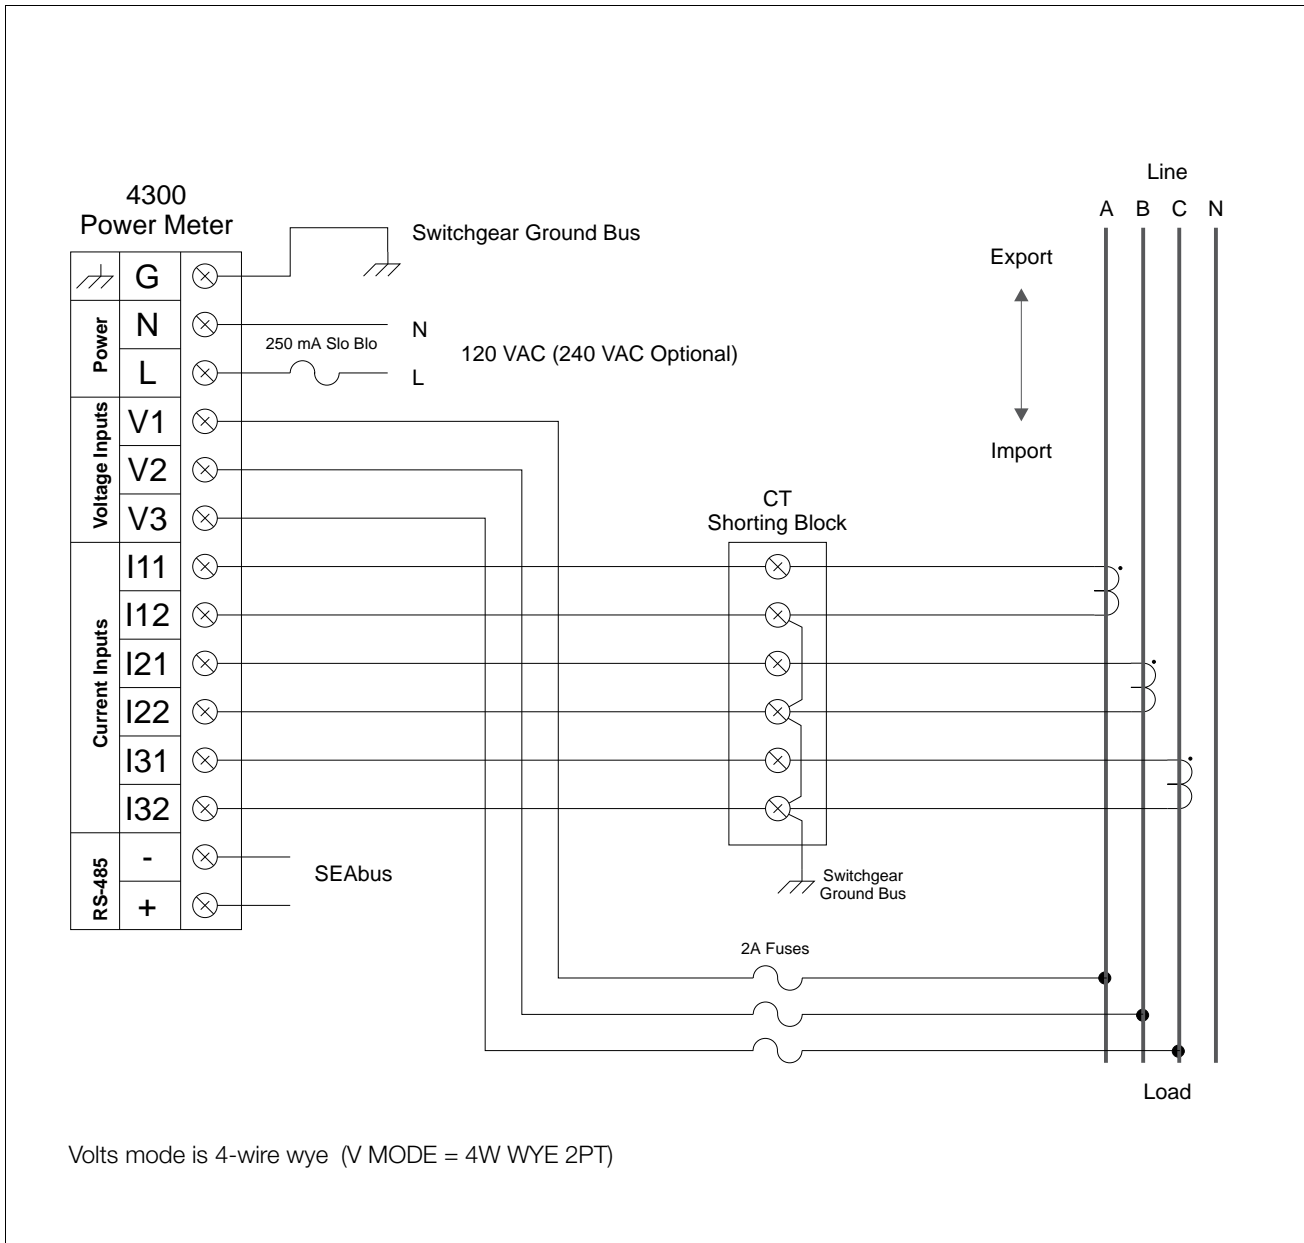

Figure 2.1 Four-Wire Wye, Three-Element Direct Connection for Systems of 120/208 VAC to 347/600 VAC
- Four-Wire Wye, Three-Element Direct Connection for Systems of 120/208 VAC to 347/600 VAC (**Figure 2.1**)
In three-phase wye systems, the 4300 power meter senses the line-to-earth ground voltage of each phase. If the power system being monitored is a 120 VAC to 347 VAC system, the meter's inputs can be connected directly. **Figure 2.1** illustrates a three-phase, four-wire wye, 120/208 VAC to 347/600 VAC system with a three-element direct connection.